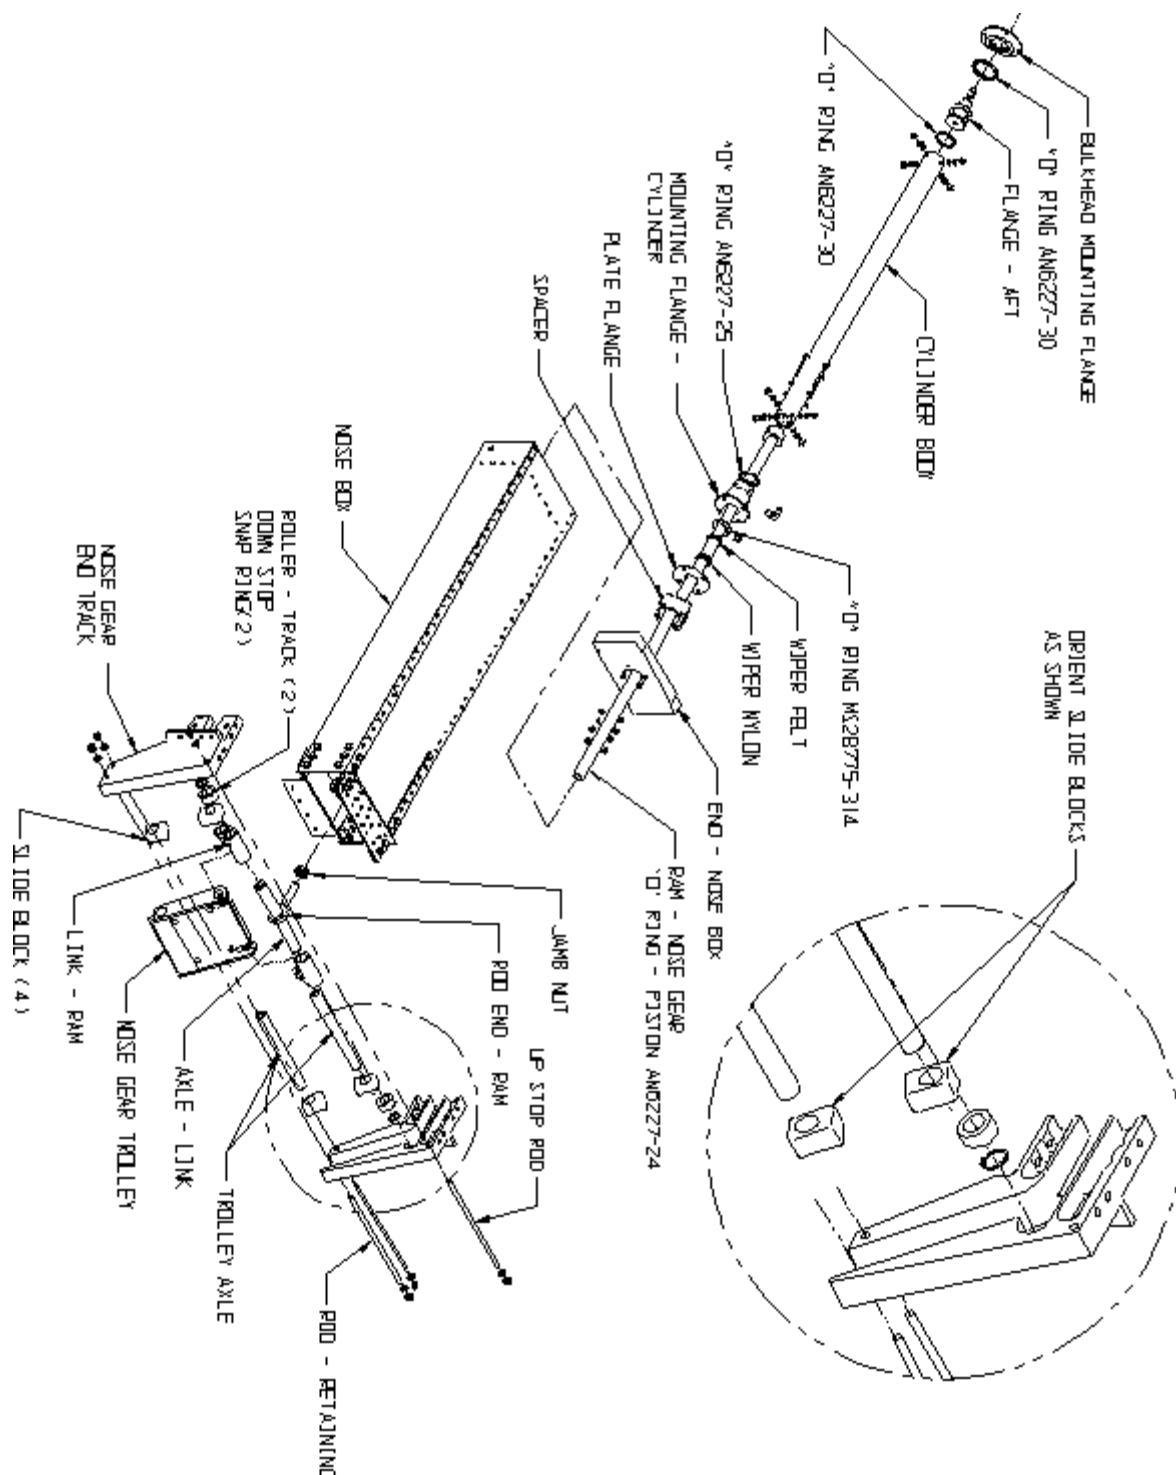

FIGURE 2.9
The nose gear has an over-center down lock. Retraction occurs when pressure is applied to the forward face of the actuator piston and the carriage is drawn along the tracks in the nose box as shown in figure 2.9. Gear position light proximity switches are closed when the piston containing the magnetic material has reached either end of its travel.
The up stops nests in the up-stop bolt. See figure 2.9 and 2.10 for locations and assembly.
Gear must be in down position. Unbolt the spring from the trolley. Relieve the pressure in system, place gear selector handle in neutral position (lever between up and down), and remove rear hydraulic line. Remove (4) bolts on forward end of cylinder. Drain fluid. Pull aft to expose internal piston rod. Loosen jamb nut on forward side of cylinder ram at rod end. Turn piston from aft side of nose box out of rod end. Push on trolley assembly to unlock and remove the bottom thru-bolts. Slide out of nose box. Note: On installation, adjust piston so it bottoms out on aft flange at the same time as the bearings when nose gear is in locked position. Also note orientation of trolley blocks. The side with the most edge distance from hole is to go toward each other on inside of trolley. (See figure 2.9 for details).